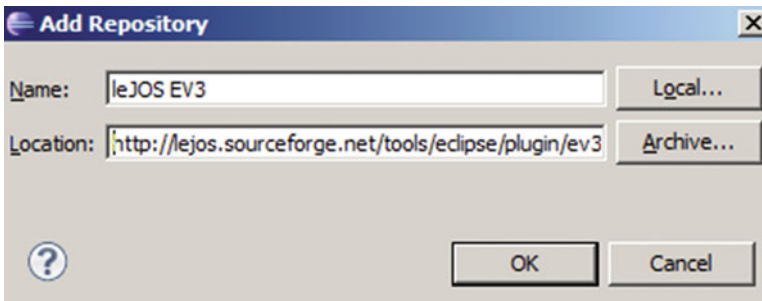

Figure 1-21. Step 2 of installing the leJOS EV3 plug-in
2. Click **Add**, and you will see another dialog box, as shown in Figure 1-21. Enter the name *leJOS EV3*, and for the location enter this: <http://lejos.sourceforge.net/tools/eclipse/plugin/ev3>.